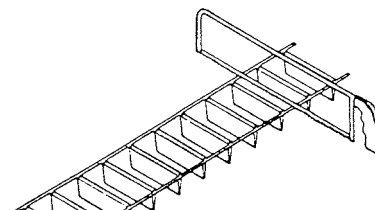

Figure 10
- Field cut last louver section in run to required length. (Fig. 10)